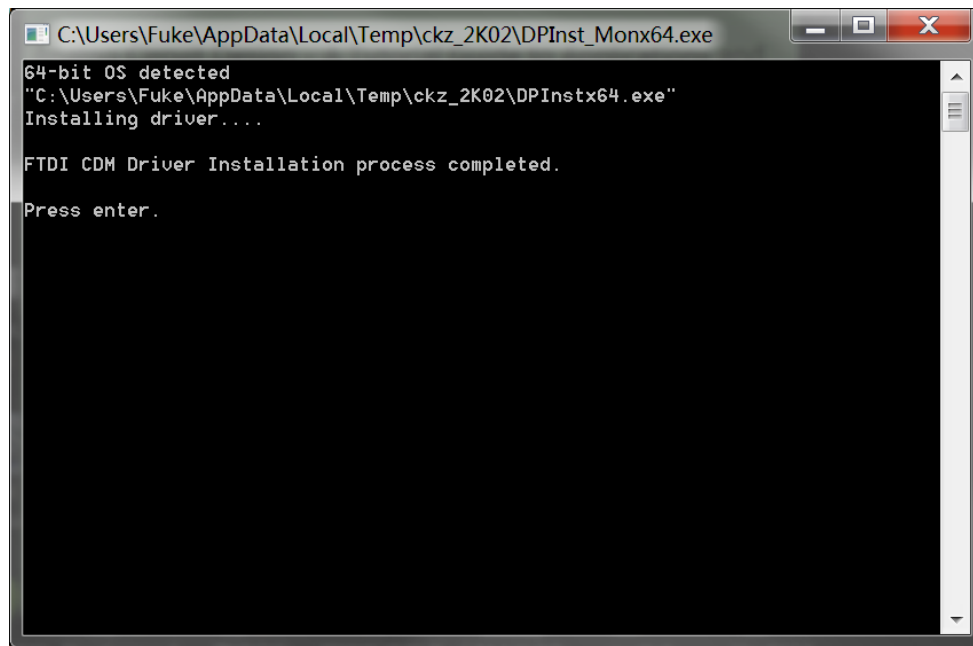

Fig.30 FT232 Driver is installed successfully.
2) After the installation is finished, you will see the Fig 30. Then press “Enter” key to finish it.